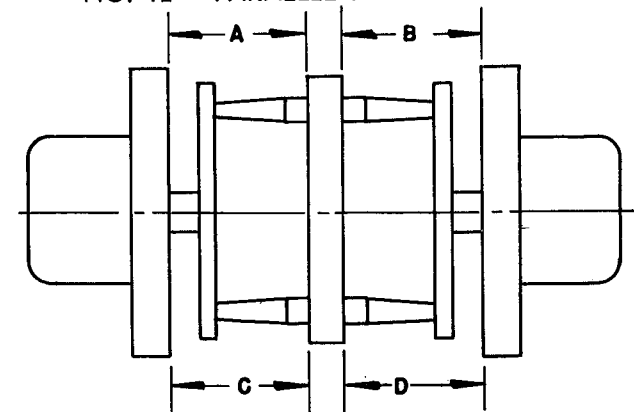

FIG. 13 — CORRECT ALIGNMENT
(H) Fig. 13 shows the coupling with correct alignment. In this position dimensions A, B, C, and D, are all equal within 1/64 (.016"), at all points around the circumference. If these dimensions are not equal with the motor and compressor hold-down bolts tight, follow through steps J, K, and L.